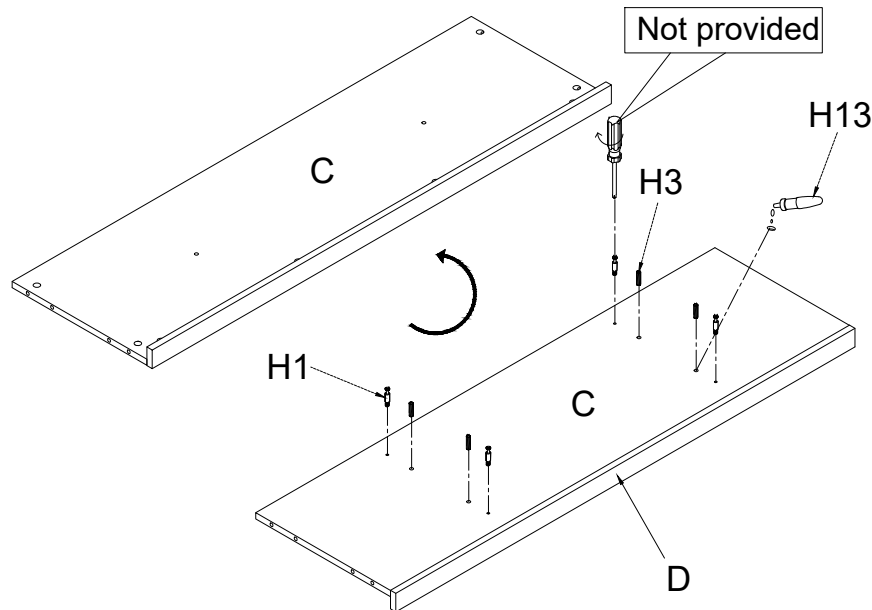

Figure 8
Carefully turn Base (C) over. Insert Cam bolt (H1) into the corresponding holes of Base (C) using the screwdriver (Not provided). Place a small drop of Glue (H13) into the remaining holes and insert Short wood dowels (H3) as shown in figure 8.